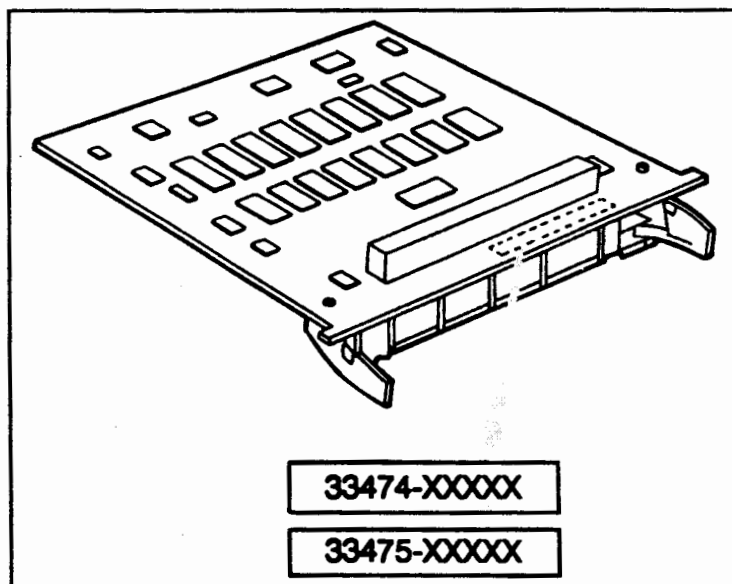

Figure C-1. Memory Board Identification
1. For part numbers, refer to Figure C-1 and the table below (XXXXXX indicates that the last five digits are manufacturing numbers that may change).